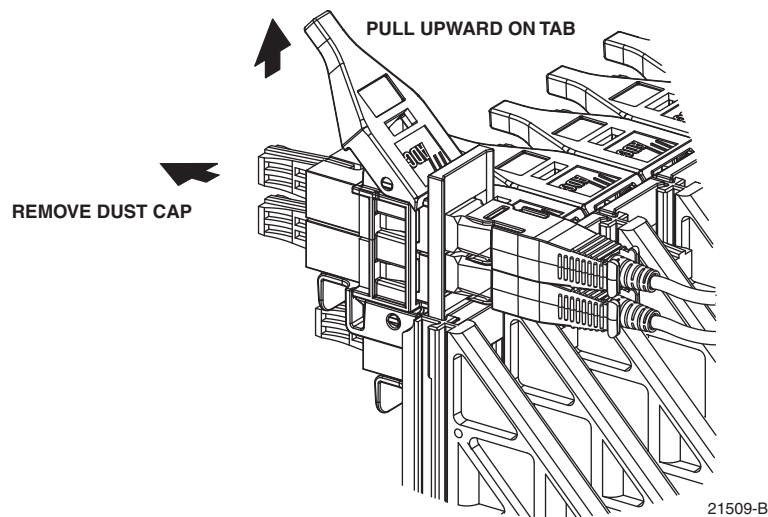

Figure 43. Typical Adapter Pack Raised to Access Position
2. Pull upward on the small tab on top of the adapter pack and lift the adapter pack to the position shown in Figure 43.